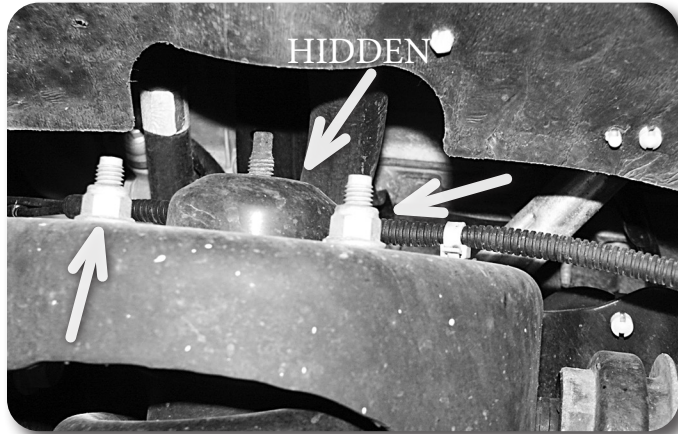

Figure 3
6. Loosen but do not remove the three strut assembly mounting nuts at the frame **Figure 3**. DO NOT loosen the center strut nut.